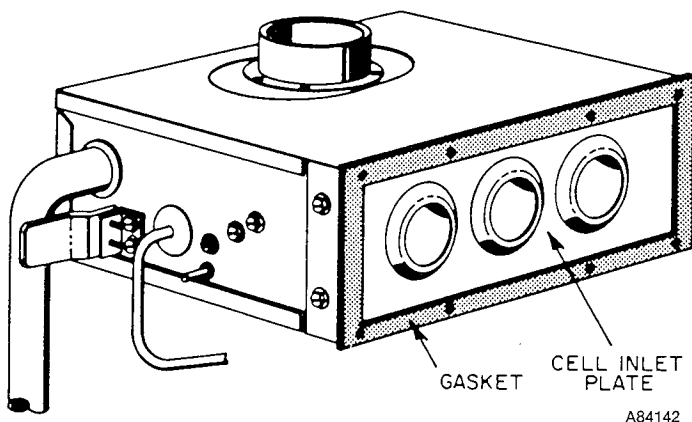

Figure 10—Burner Closure
15. Check condition of gasket on cell inlet panel of burner enclosure. Replace gasket if necessary. See Figure 10.